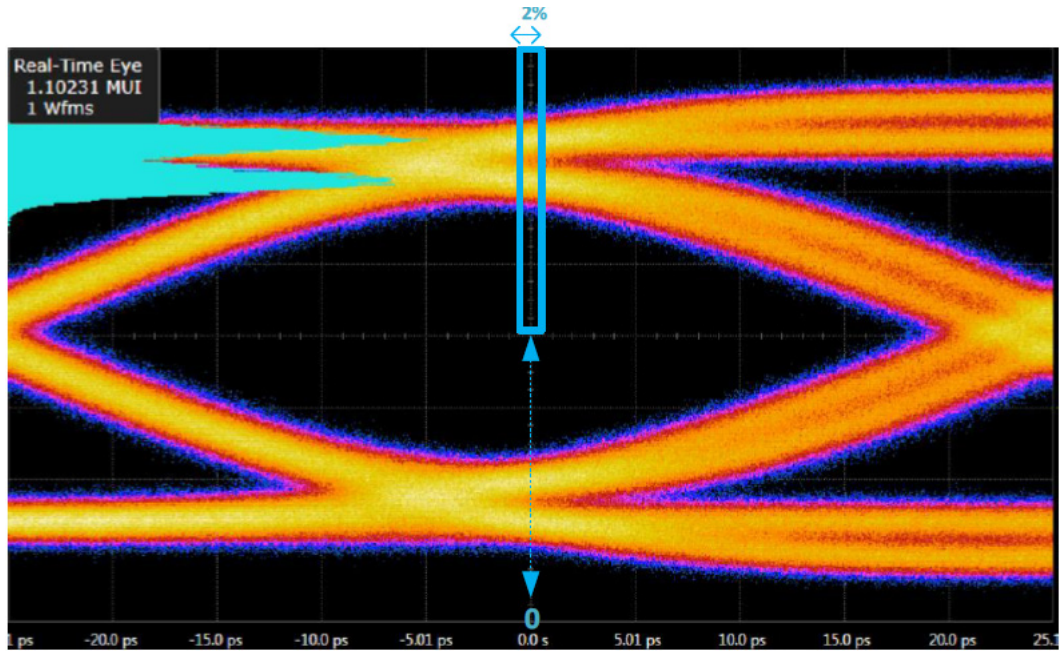
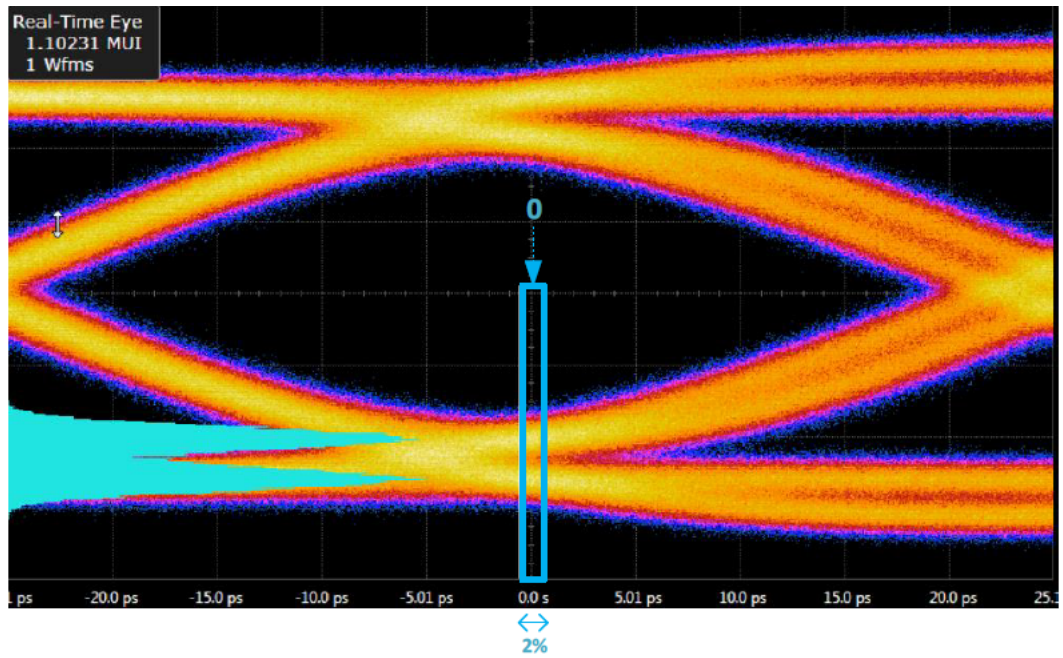

Figure 45 Thunderbolt RX TP3EQ Eye Height upper location measurement
Figure 46 Thunderbolt RX TP3EQ Eye Height lower location measurement
- f Apply a Histogram to the lower and upper sections of the eye, with  $\pm 1\%$  deviation in time axis in order to calculate the eye height. Eye height is the delta between the minimum value from the upper histogram result (see Figure 45) and the maximum value from the lower histogram result (see Figure 46).